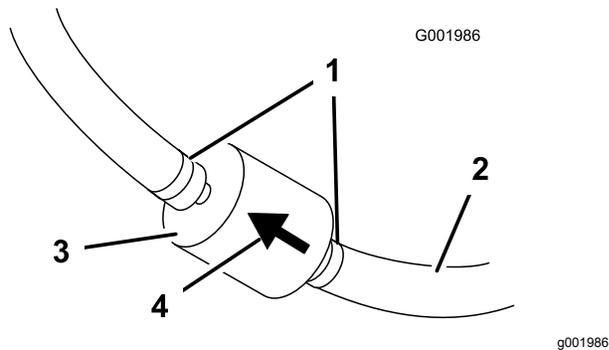

Figure 31
5. Squeeze the ends of the hose clamps together and slide them away from the filter (Figure 31).